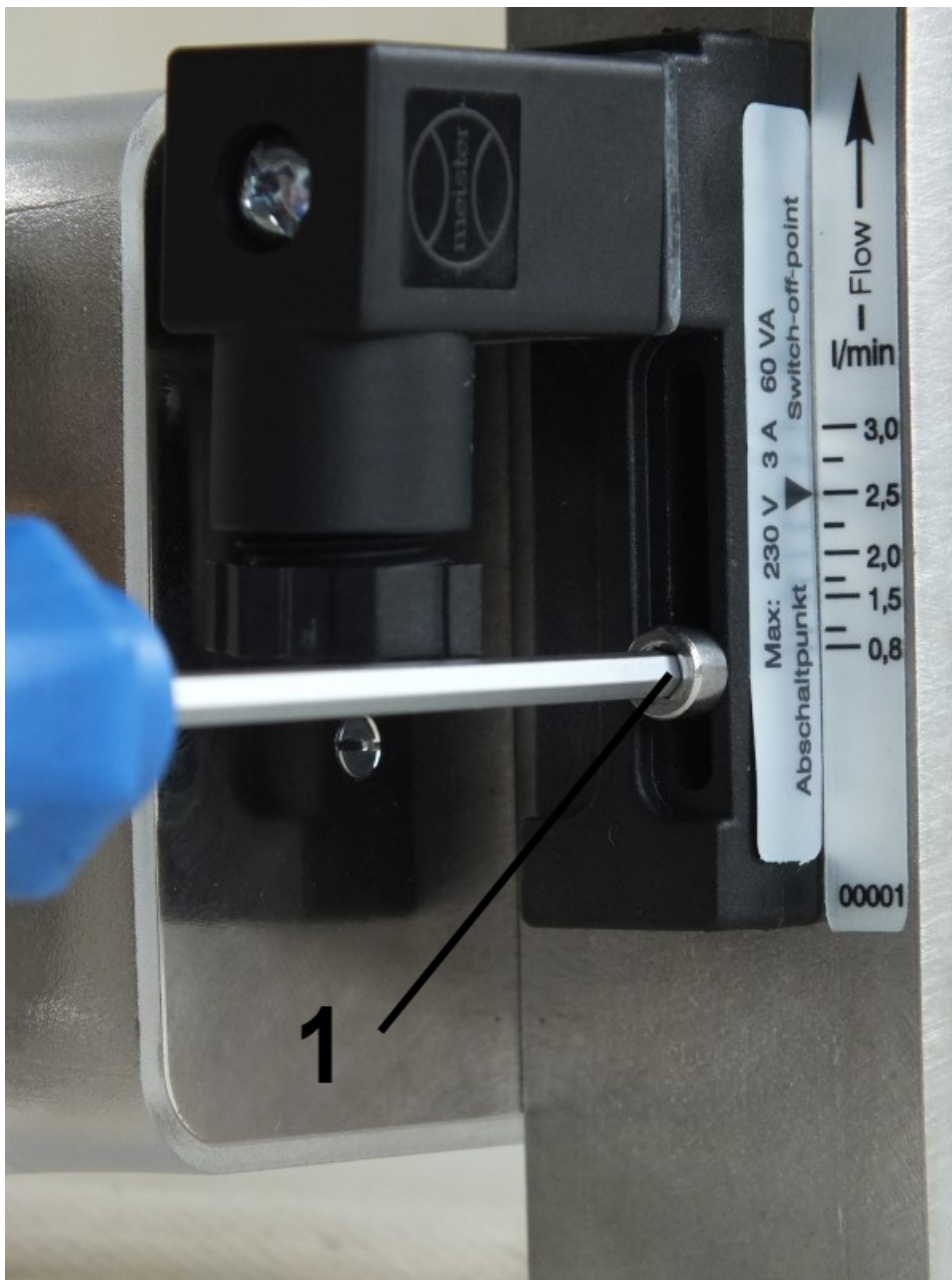

Fig. 34: Loosen set screw
1. Loosen the switch contact set screw (Fig. 34/1) using a hex screwdriver.
3. Re-tighten the switch contact set screw (Fig. 34/1) using a hex screwdriver. Observe the correct tightening torque.